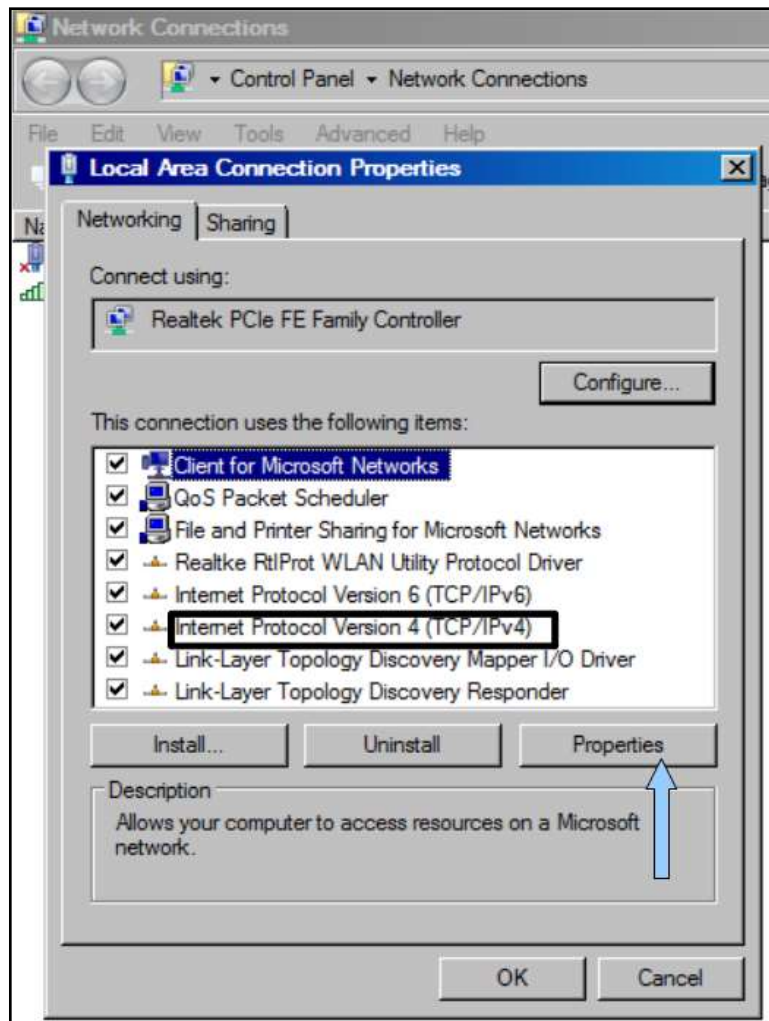

Figure 5-3. Select Internet Protocol Version 4
4. Click on Internet Version Protocol (TCP/IPv4) and then click on Properties, **Figure 5-3**.